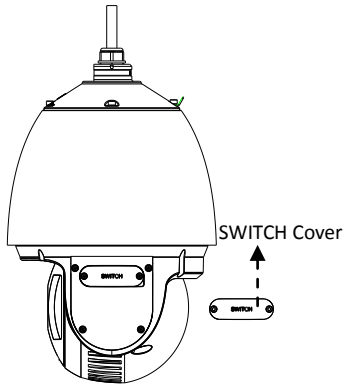

Figure 2-3 DIP Switch
2. Loosen the screws on the SWITCH cover which is on one side of the speed dome as shown in Figure 2-3.